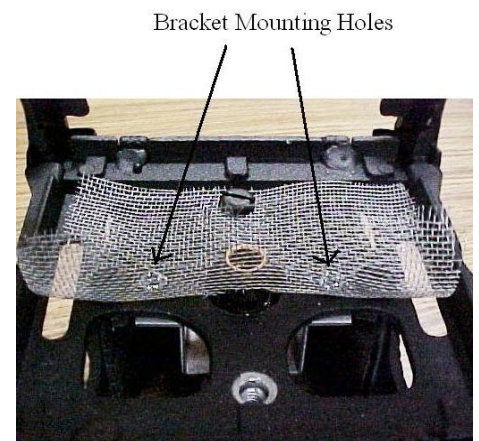

Figure 2
8. Install the quick-connect holding bracket by drilling two (3\16") clearance access holes for #10 screws in the base of the gaslight, using the bracket as a template (See Figure 2).